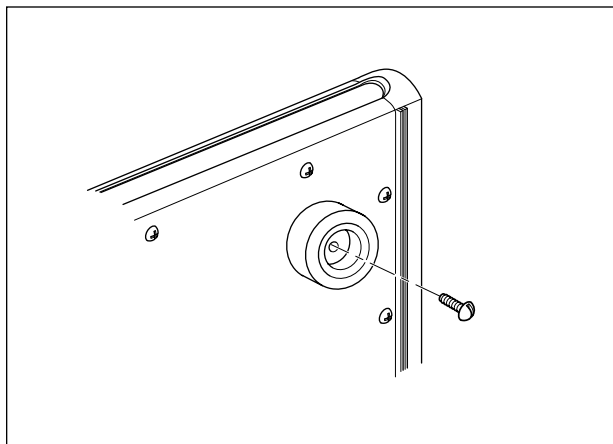

Figure 4. Installing Rubber Feet
2. Place a screw through each rubber foot with the screw head recessed in the center of the hole. Install one rubber foot and screw into each corner hole on base and tighten securely. See Figure 4.